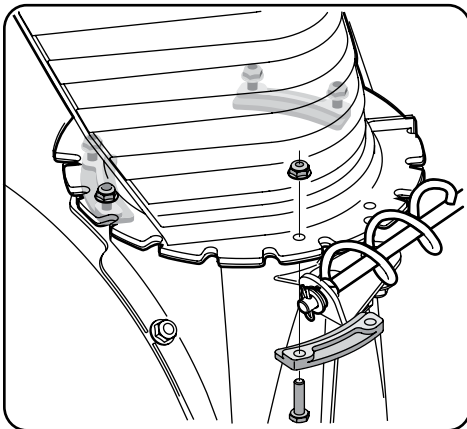

Figure 3-5
- Secure flange keeper removed earlier with lock nuts and screws. Tighten down nuts securing the other two flange keepers. See Figure 3-5.